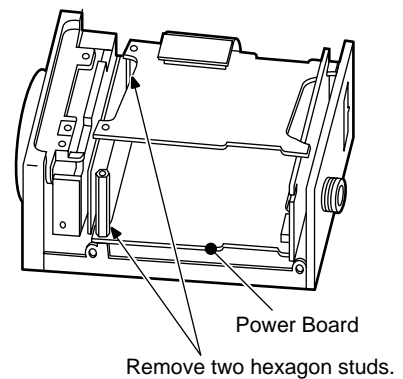

Fig. 2-3
- Referring to Fig. 2-3, remove two hexagon studs that secure the Power Board and remove the Power Board.